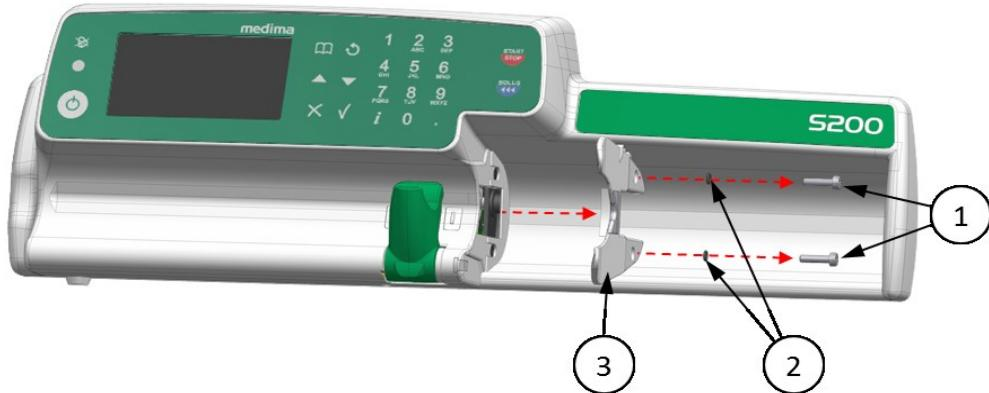
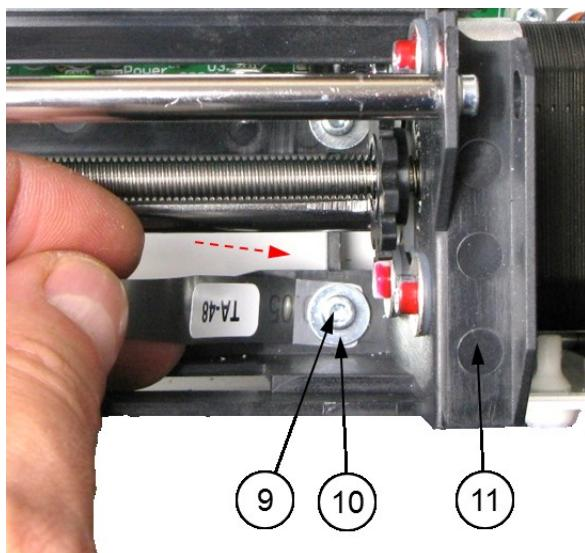

Fig. 46 Syringe flange clamp removal/installation
Fig. 48 Inserting the TA-48 tool
- Holding the Drive mechanism (11) together with the Front case (12) screw two M3x12 screws (1) with two 2,5x1 o-rings (2) and Syringe flange clamp (3) as shown in Fig. 46.
- Using the TA-41 screwdriver with a bit TA-42 and the tool TA-48 screw two screws 3x10 (9) with 3,2x10x0,5 metal washers (10) according to the following procedure:
- insert TA-48 below one of the Washers 3,2x10x0,5 (10) as shown in Fig. 48, then screw the 3x10 screw for plastic (9);